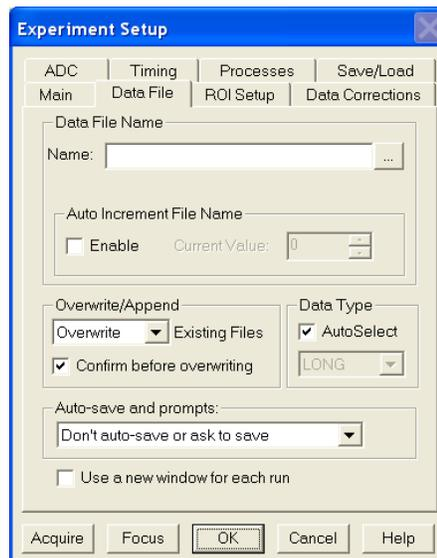

Figure 25. Data File dialog
8. On the **Data File** tab (Figure 25) make the following selections.